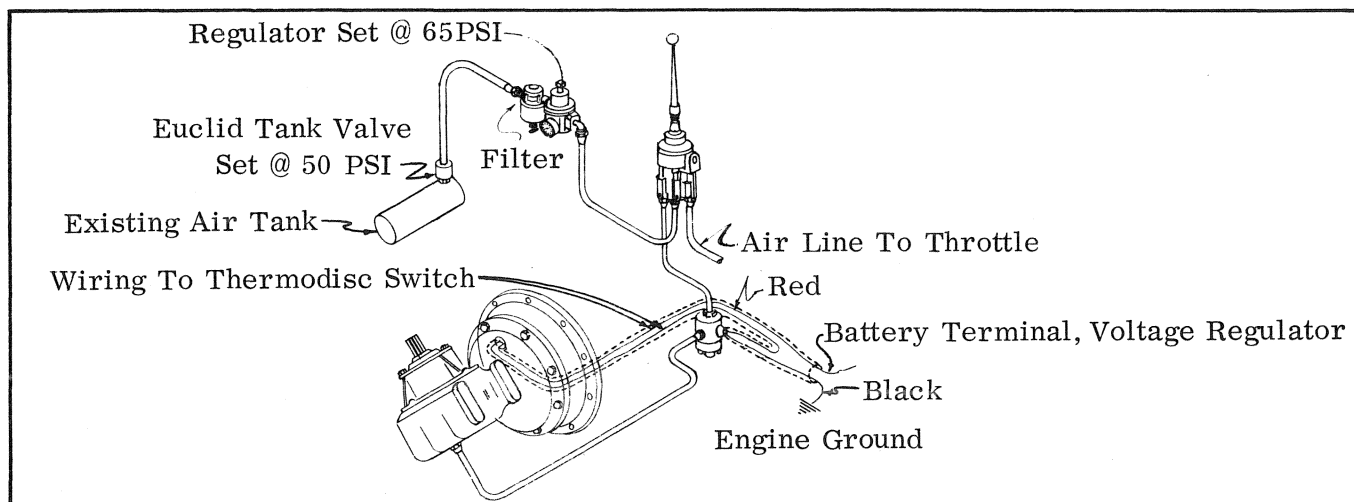

Figure 21. Combined Air-Electrical Schematic, Thermal protection
- (35) Mount the clutch assembly on the splined shaft. The clutch should slide on the splined shaft with a slight press fit. Refer to the index mark you made prior to disassembly, and install the end cap. Use lock-tight compound to prevent air leak.
- (36) Install flexible line and fittings, so that the flex-line is not cramped or distorted.
- (37) Using a suitable support, secure the clutch assembly to the flywheel. Tighten and safe-wire the capscrews.
- (38) Refer to index marks, install and tighten the two rows of capscrews securing the adaptor plate to the bell housing and the bell housing to the engine.
- (39) Install drive line, battery box and batteries, and service gearbox with lubricant as recommended.
- (40) A combined air-electrical schematic (Fig. 21) is provided to make clear the functions of the various components, and to provide an accurate pictorial instruction concerning the correct connections of this system.
- (41) The quick-release valve should periodically be cleaned of accumulated moisture. This is ac-